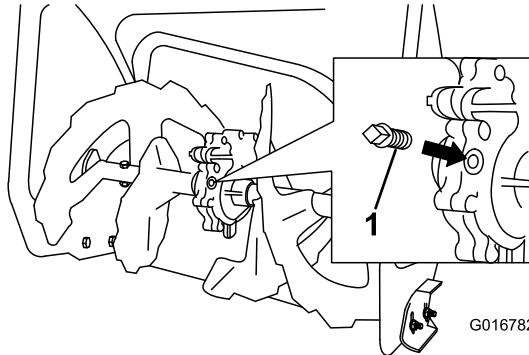

Figure 33
2. Clean the area around the pipe plug (Figure 33).